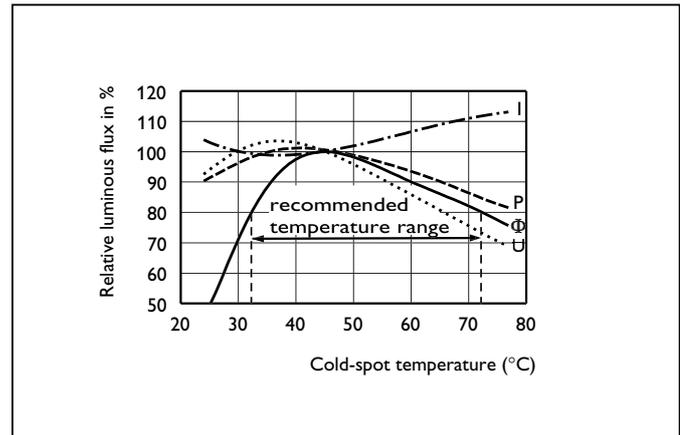

Figure 4.4.1: MASTER PL-L lamp characteristics in relation to cold-spot
The lamp characteristics are influenced by the lamp cold-spot and/or ambient temperature. Relative values of luminous flux (Φ), lamp voltage (U), lamp current (I) and lamp wattage (P) as a function of the **cold-spot** temperature and measured on reference ballast are given in figure 4.4.1.